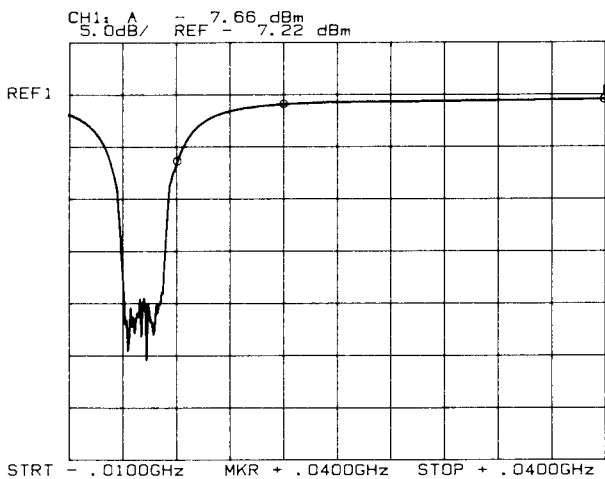

Figure 4-2. Trace Before Adjustment
3. On the HP 8756A Channel 2, press **[SHIFT] [MEAS RATIO]** to turn Channel 2 off. On Channel 1, press **[MEAS PWR]** until the **A** LED is on. Press **[REF]** until the **POSN** LED is on, and use the step keys or knob to move the **REF POS** one line down from the top CRT graticule. Press **[SHIFT] [SCALE]**. A response dip similar to Figure 4-2 should be visible on the display. This dip is formed because the sweeper is a hetrodyned source (in Band 1), sweeping through low frequencies where it is incapable of generating output power. The middle of this response dip is the "ZERO FREQUENCY" point.